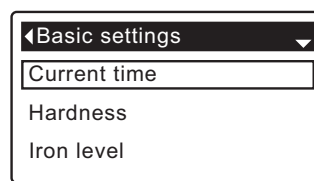

FIG. 37
3. Press the OK/MENU button to display the Basic settings menu (See Figure 37).
7. Press the OK/MENU button. The display will go back to the Basic settings menu (Figure 37).